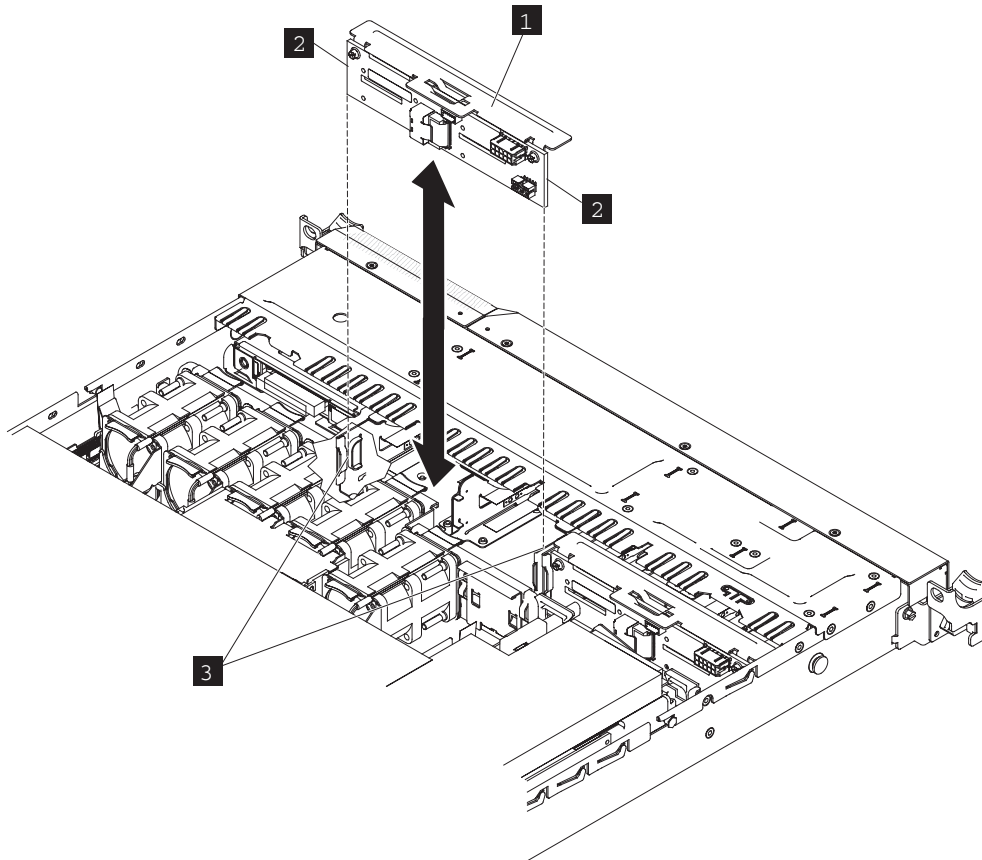

Figure 114. The 2145-CG8 boot-disk backplane
12. Lift up the disk-drive backplane (**1** in each of the following two illustrations to disengage the backplane edges (2145-CG8) or tabs (2145-CF8) (**2**) from the slots (**3**) on a backplane bracket. In the 2145-CG8 node, pull up slowly on each backplane until it is clear of the slots on the bracket and remove it from the node, as shown in Figure 114 on page 129.